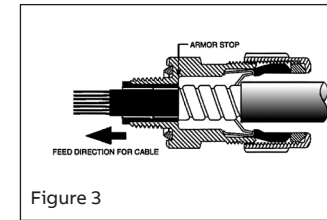

Figure 3
- Feed cable through gland funnel entry and push until cable armor hits armor stop (Figure 3). Mispositioned cable armor may result in improper cable armor grounding. Note: If inner conductor bundle will not pass through, remove armor stop (See instruction 5).